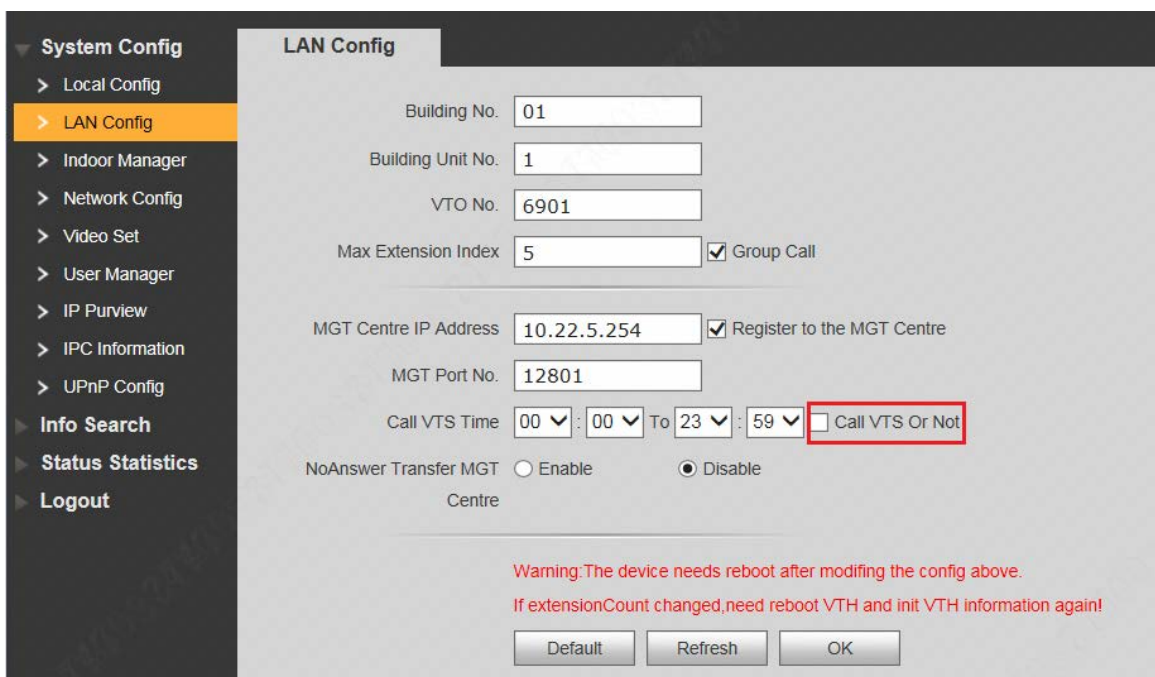

Figure 6-2
- Ensure to cancel the selection of “Call VTS or Not”, as shown in Figure 6-2.